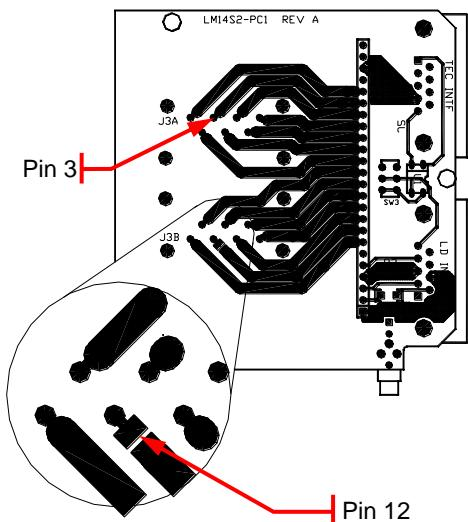

Figure 9 Adapter Card Detail
2. Pin 12 is identified by two adjacent pads with a narrow slit between them (see Figure 9).